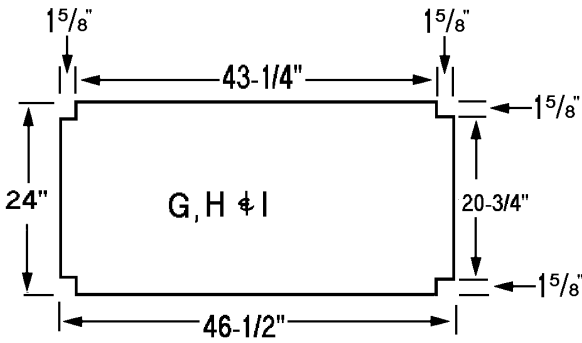

Figure 5
1. The Top (G), Bottom (H), and Middle Shelf (I) are identical. Cut each from 3/4-inch-thick plywood according to the diagram shown in *Figure 5*. Note that a 1-7/8-inch square must be cut from each of the four corners to accommodate the Inner Vertical Supports (B).